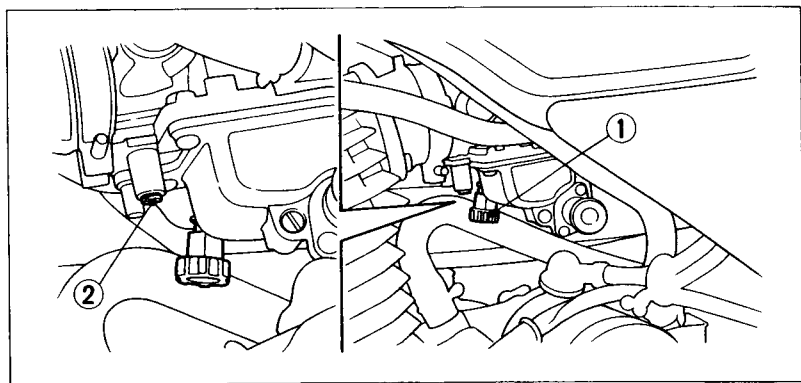

Fig. 4-9            (1) Throttle stop screw            (2) Pilot screw
2. Adjust idle speed by turning the throttle stop screw (Fig. 4-9).